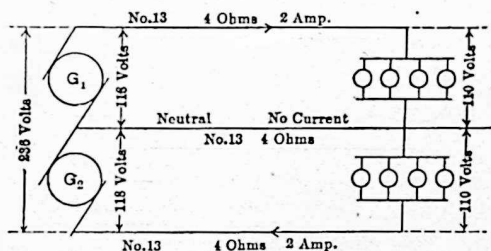

FIG. 93. Three-wire system; balanced. Neutral carries no current.
The generator also has to have a special device to which this third wire is attached. It is much simpler, however, to consider the generator as divided into two 110-volt generators in series as in Fig. 93, with the neutral coming to the junction of the two.
When there are the same number of lamps burning on each side of the neutral, as in Fig. 93, the neutral carries no current, and the system is said to be balanced. It is only when the system is unbalanced that the neutral is of use
The lamps of both groups were made to run on 110 volts as in Fig. 93, and would probably be ruined by 122 volts. We can say, then, that the result of extreme unbalancing is to so greatly disturb the voltage distribution, that appliances built for special voltages would not operate satisfactorily on the system.
**Prob. 104.** Find the voltage distribution if the neutral in Fig. 93 broke.